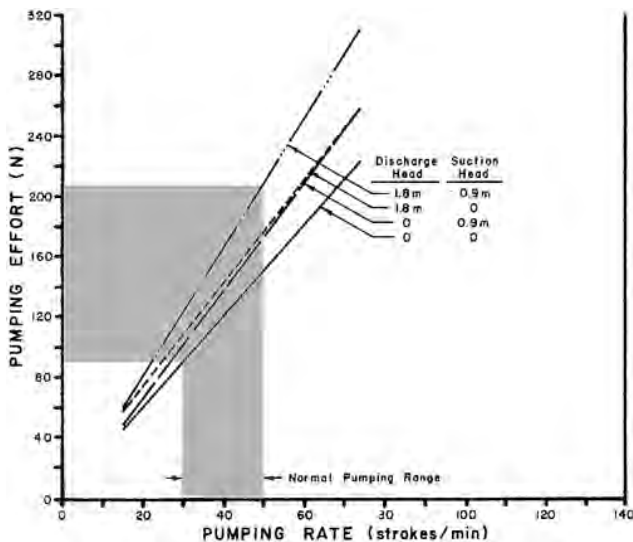

FIGURE 3. Pumping Effort with Diesel Fuel at Various Pumping Rates, Suction and Discharge Heads.
**Pumping Effort:** Pumping effort is the hand force that has to be exerted, perpendicular to the end of the pump handle, to operate the pump. FIGURE 3 shows the hand force needed at various pumping rates, suction and discharge heads. Pumping effort increased with increasing pumping rates and with increased head. At a pumping rate of 50 strokes per minute, with zero suction and discharge